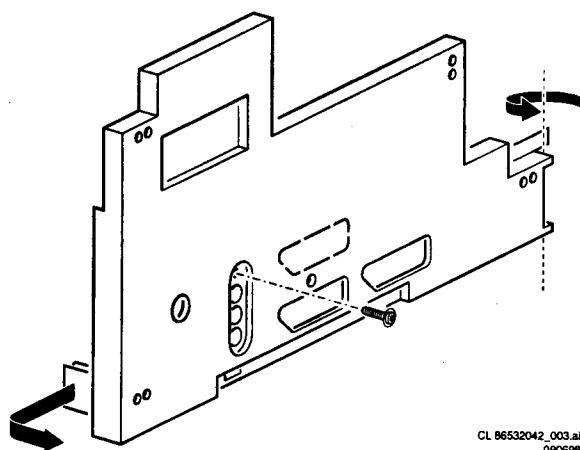

Figure 4-2
1. Remove 1 screw in case of 2-scarts I/O-backplate and 2 screws in case of a 3-scarts I/O-backplate. (See figure 4.2)